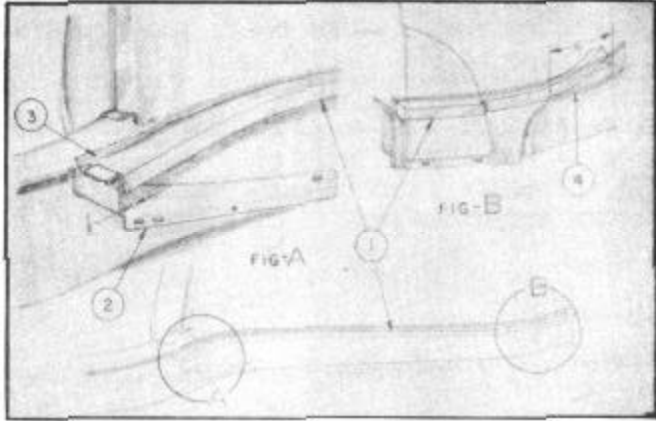

FIGURE 16
3. Install rear fender seal flush with frame flange, raising the front end 1/8" to interfere with rocker panel filler, Figure 16, No. 1 and No. 2. Cement seal tightly and allow approximately 6" from the end of the seal to remain loose until the fender is completely installed, No. 4, Figure 16. Then cement seal securely to frame flange, No. 3, and fender. **TIGHTEN ALL ATTACHING BOLTS AND SCREWS SECURELY.**